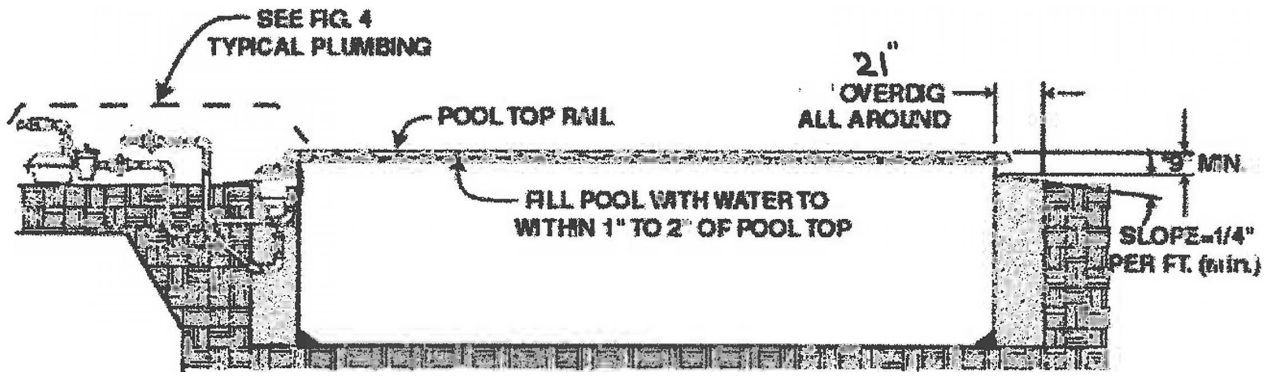

FIG. 1 - PREPARATION FOR CONCRETE OR PAVER BLOCK DECK INSTALLATION
2. The depth of the excavation will vary depending on the height of the pool desired deck type. Use the dimensions shown in Figs. 1, 2, or 3 to calculate the excavation depth for your pool height and deck choice.